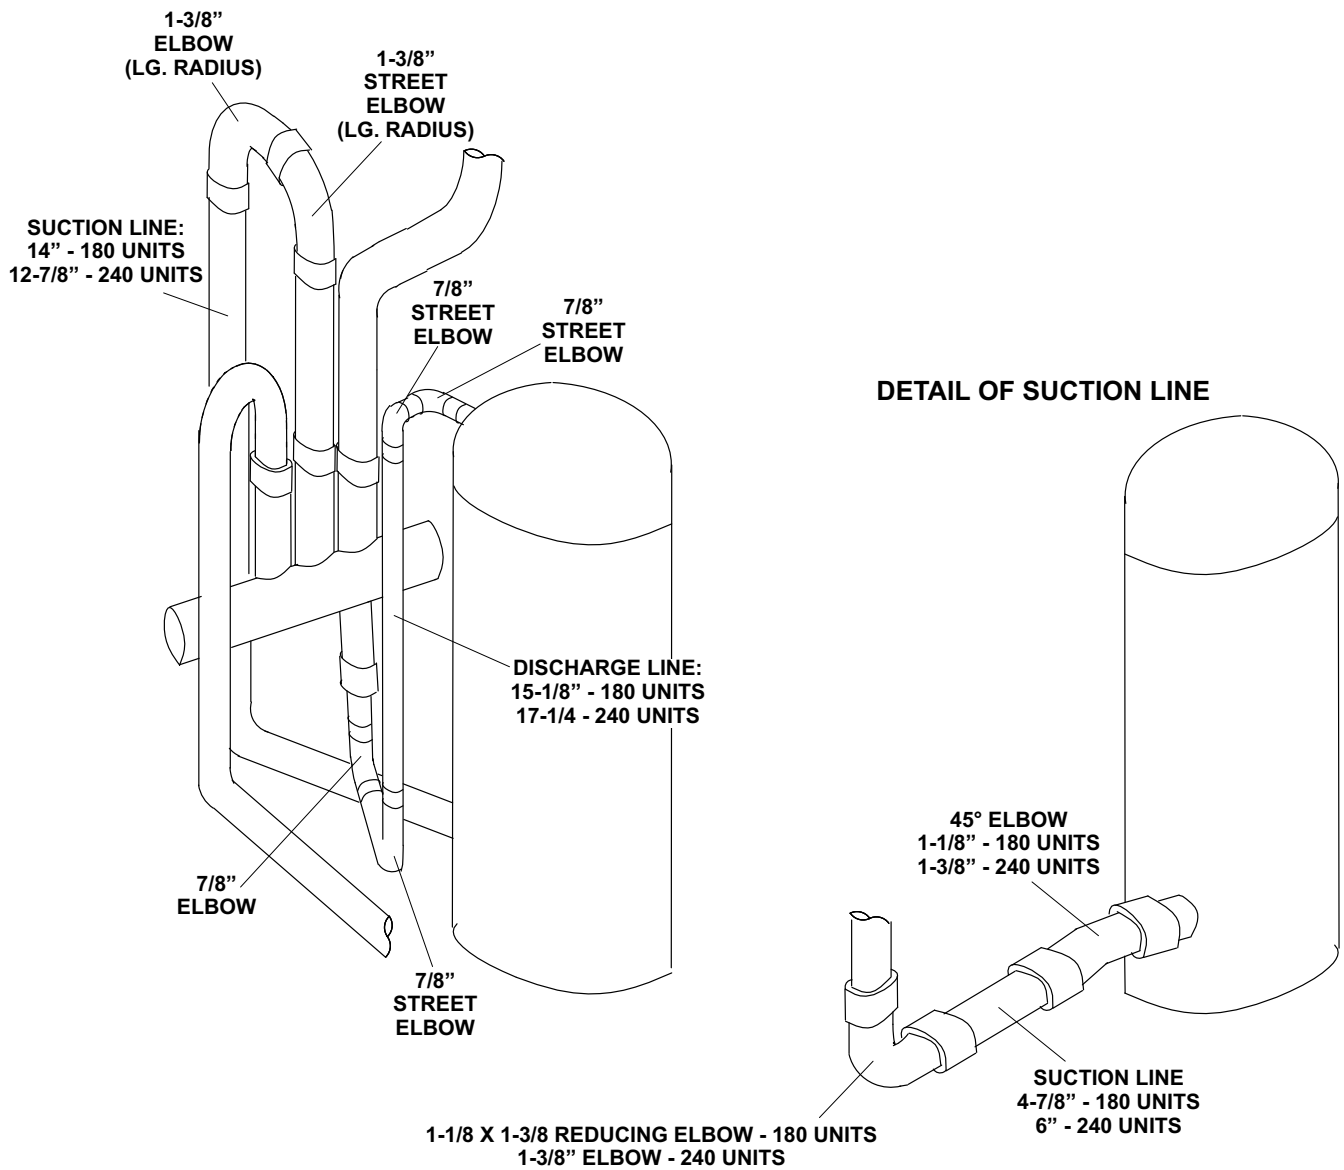

FIGURE 3
- 1- Position replacement compressor in unit with discharge stub facing left. See figure 3.
- 3- Install plumbing as shown in figure 3 without brazing. Make any tubing length adjustments required for fit-up. Braze all joints.